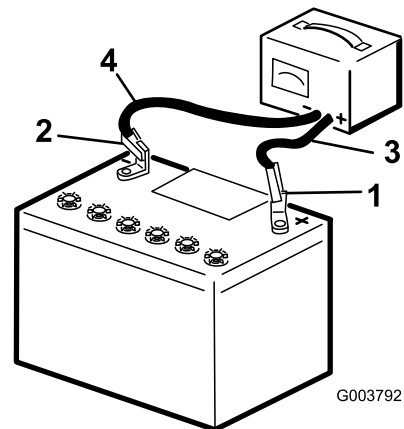

Figure 44
2. Charge the battery at a rate of 3 to 4 A for 4 to 8 hours (Figure 44). Do not overcharge the battery.
3. When the battery is fully charged, unplug the charger from the electrical outlet, then disconnect the charger leads from the battery posts (Figure 44).
1. Using the fasteners previously removed, install the positive (red) battery cable to the positive (+) battery terminal (Figure 44).
3. Using the fasteners previously removed, install the negative (black) battery cable to the negative (-) battery terminal (Figure 44).
4. Secure the battery using the bar and wing nuts (Figure 44).